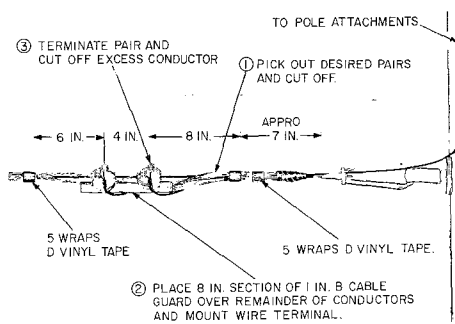

Fig. 15—Location of Wire Terminals at Dead-End Pole
**9.01** Fig. 15 shows multiple line wires terminated at dead-end pole.